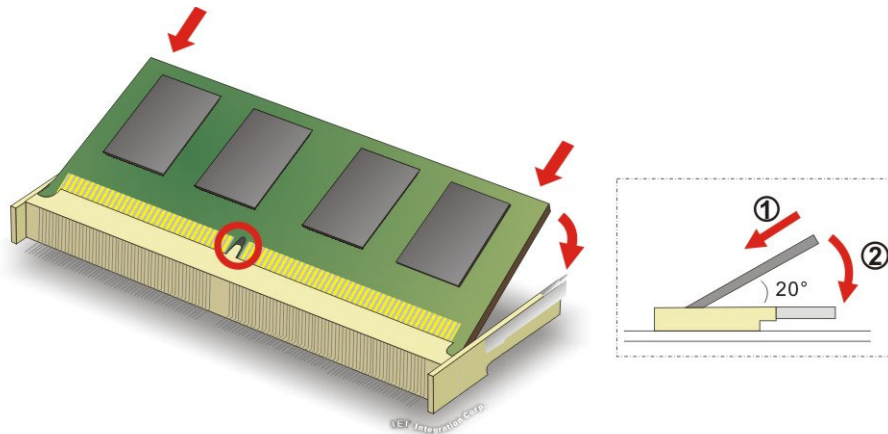

Figure 5-2: SO-DIMM Installation
- Step 5:** Align a new SO-DIMM so the notch on the memory lines up with the notch on the memory slot (**Figure 5-2**).
- Step 6:** Once aligned, press down until the SO-DIMM is properly seated. (**Figure 5-2**).